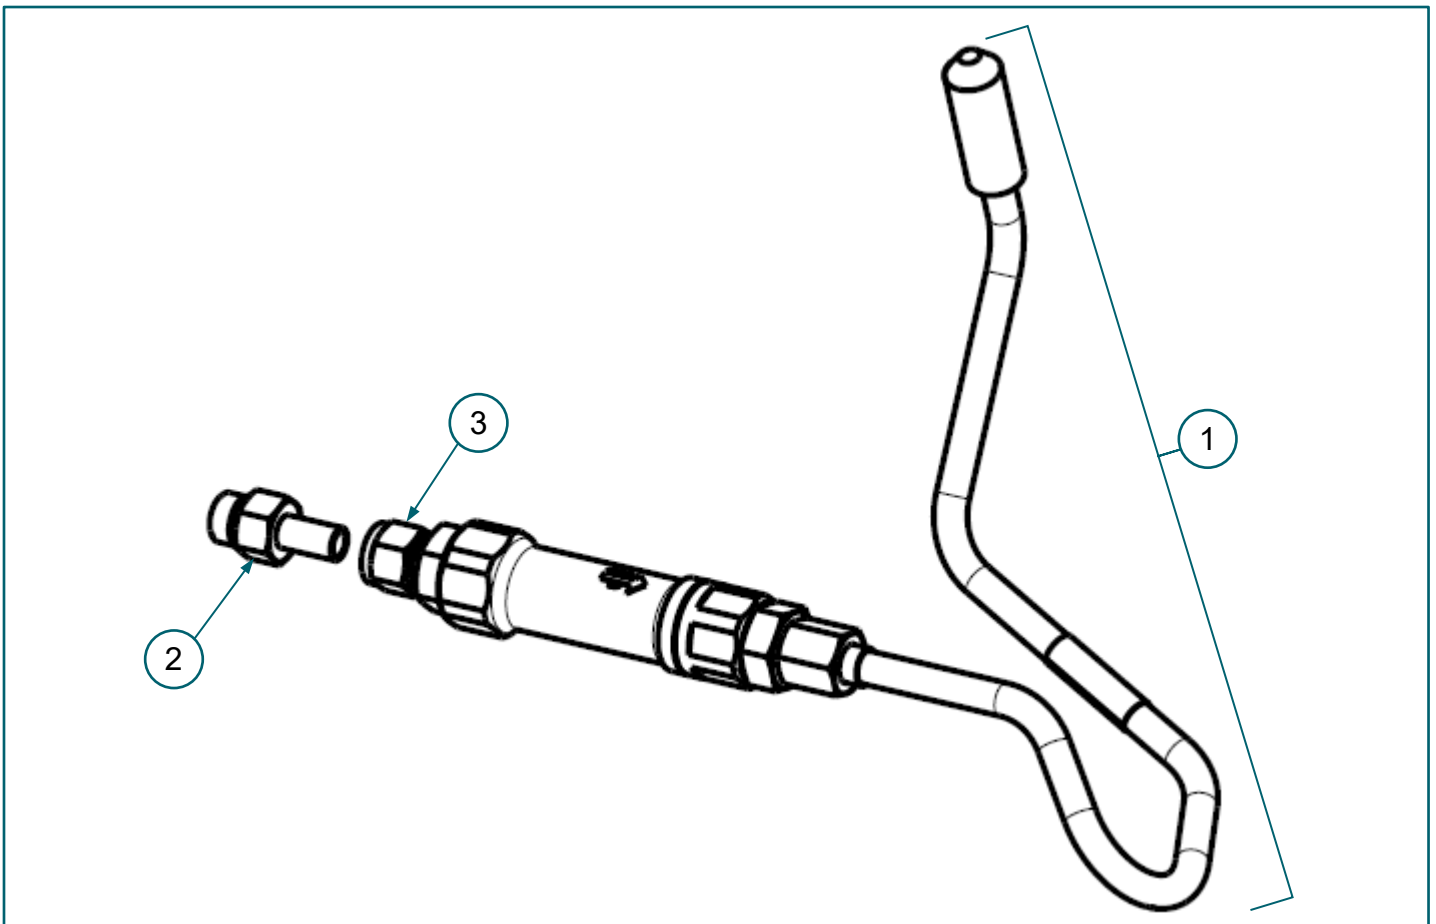
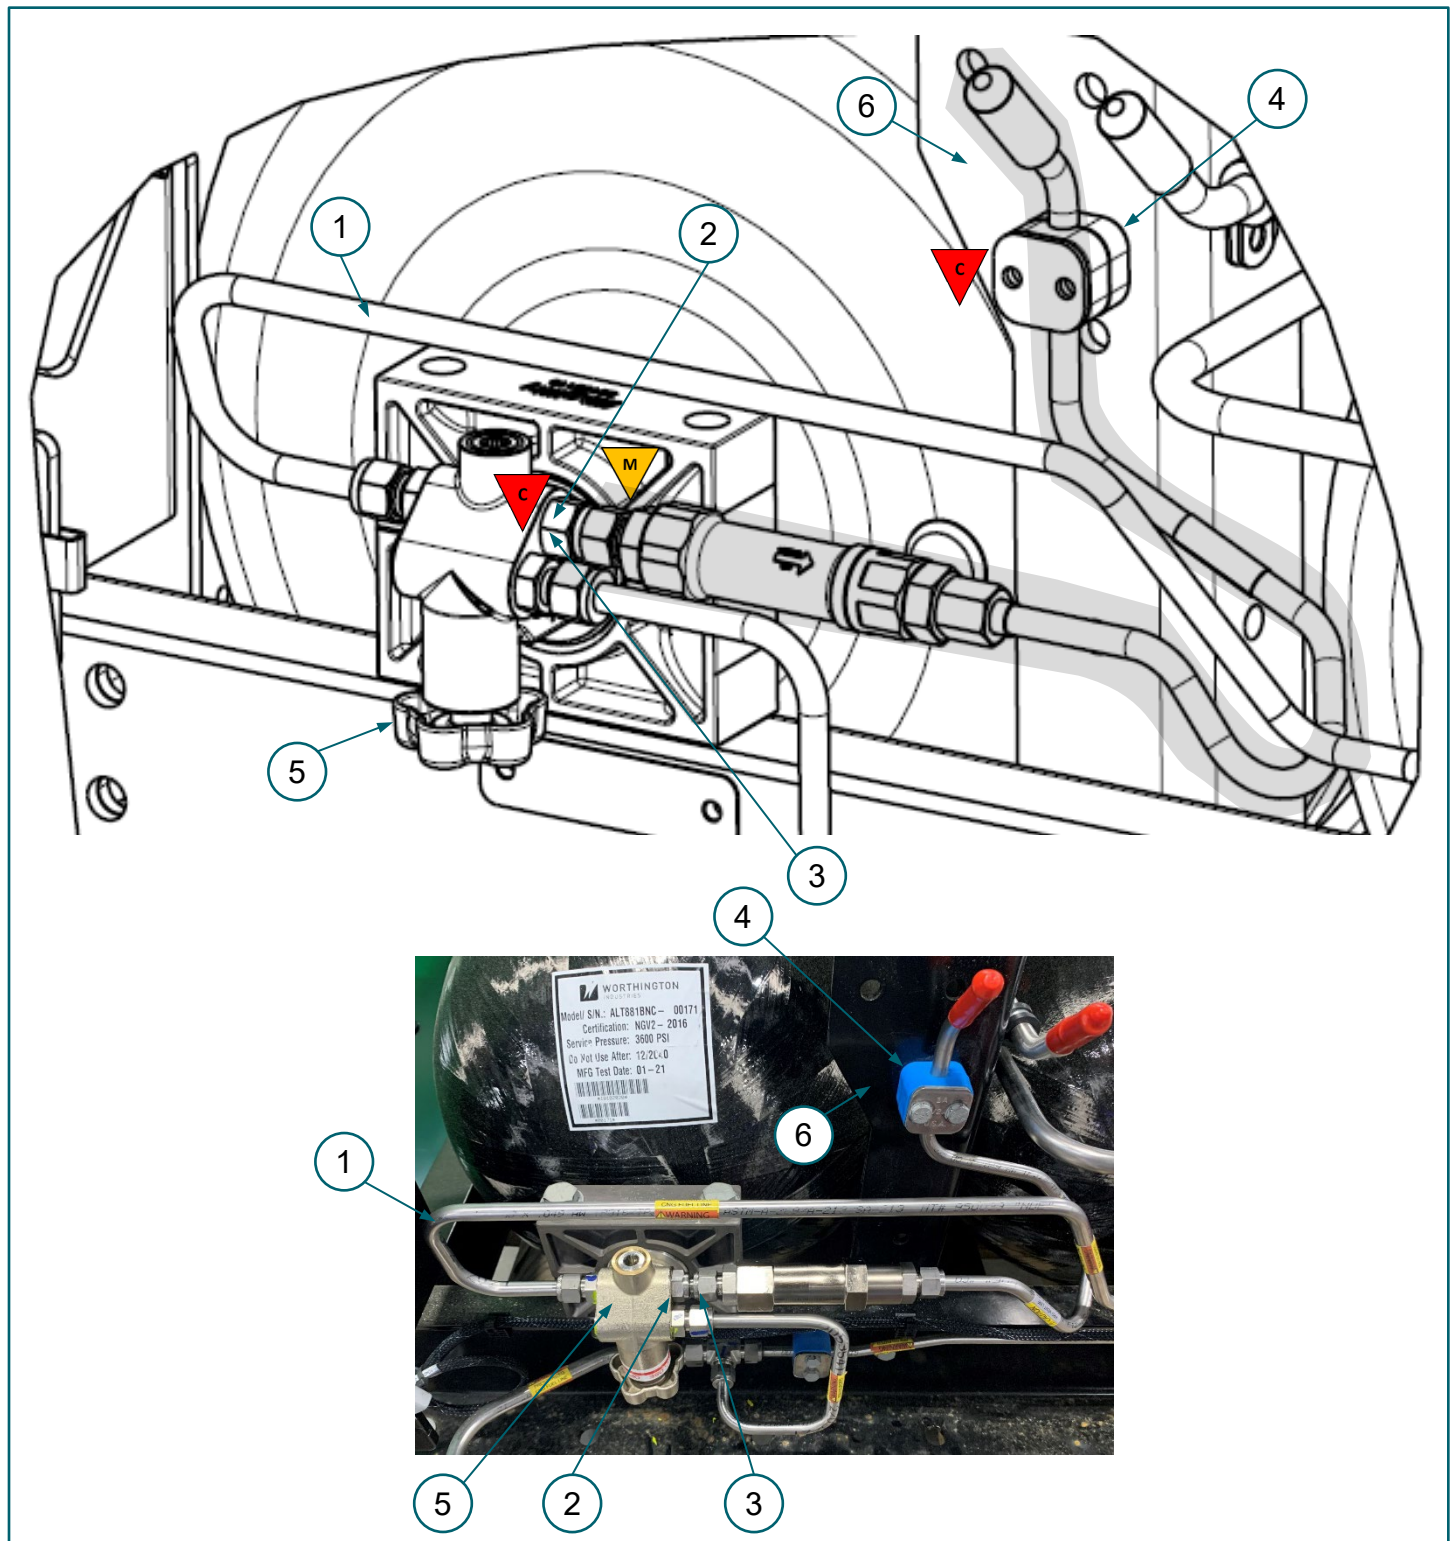

FIGURE 4. Left PRD vent tube assembly and male tube adapter fitting
FIGURE 5: Left cylinder valve plumbing after installation of left PRD vent tube assembly and live PRD tube
8. Use a 9/16-in wrench to install (2) male adapter fitting, p/n 10200236, from retrofit kit on left cylinder valve (*not shown*). **FIGURE 4**
9. Use a 11/16-in wrench to install male connector fitting, p/n 10200063, of (1) left PRD vent tube assembly while using a 5/8-in wrench to hold (2) male tube adapter, p/n 10200236. **FIGURE 4** and **FIGURE 5**
10. Install (1) live PRD tube, p/n 20437408, from retrofit kit on (5) left valve. **FIGURE 5**
11. Use 7/16-in socket and a 7/16-in wrench to secure (*shaded*) left PRD vent tube assembly to (6) structure using (4) tube clamp and fasteners. **FIGURE 5**